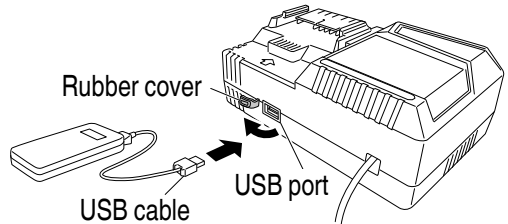

Fig. 21
(2) Connect the USB cable. (Fig. 21)